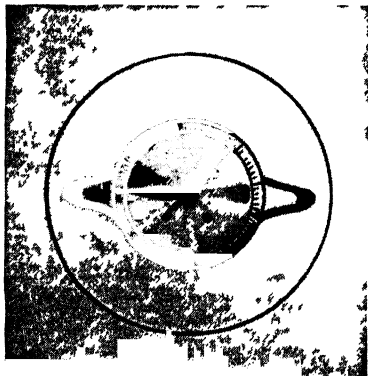

FIG. 14-46 Dynamometer used in pulling up line conductors to desired tension. Tension is indicated on scale on dial. (Courtesy John Chatillon & Sons.)
**Use of Dynamometer.** When conductors are to be strung with unusually small sags, the measuring of the sags may not be so accurate or convenient as measuring the conductor tension. This is done by means of a dynamometer which is inserted in the pulling equipment. Such a dynamometer is shown in Fig. 14-46, and the manner of using it is shown